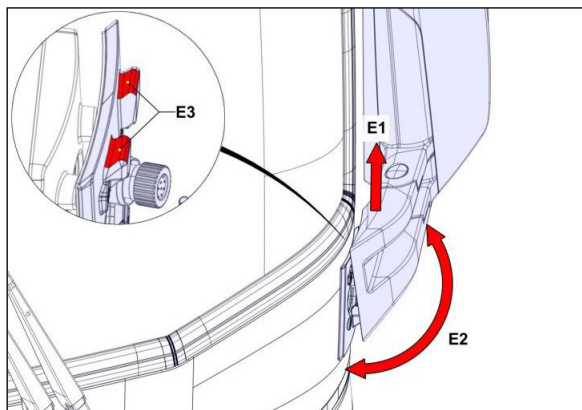

FIGURE 102
- Lift the mirror unit (E1, Figure 102) from the mounting plate and tilt (E2, Figure 102) so it detaches from the mounting plate.